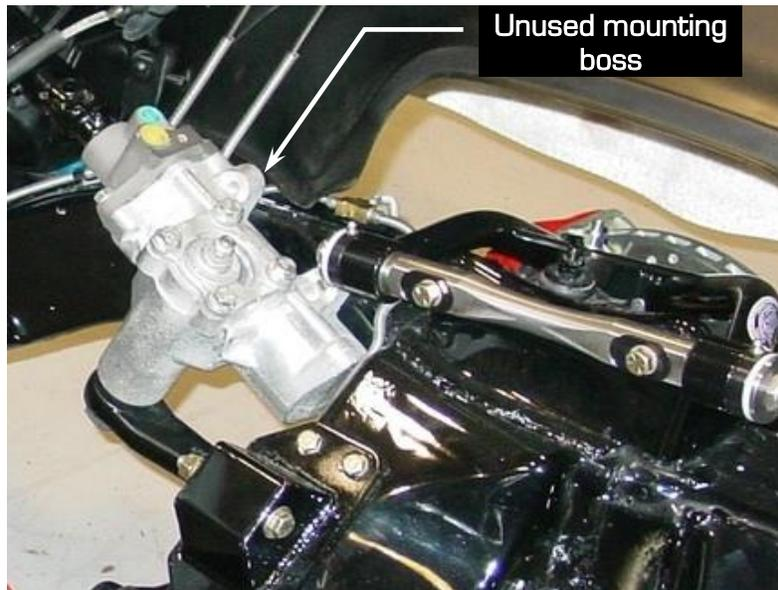

Figure 2 - Unused Mounting Boss
7. Place the 600 steering gear against the frame and thread the three bolts into the new steering gear. Be sure to use the correct mounting points on the steering as the fourth mounting boss is not used (Figure 2 on the next page). Torque the mounting bolts to 70 ft/lbs.